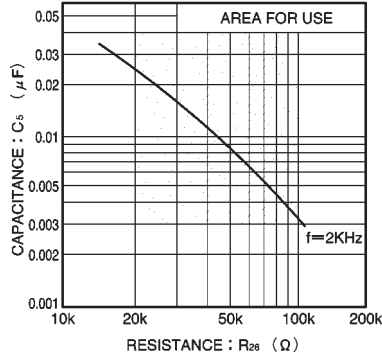

Fig. 7 Value of external components for oscillator (Vcc = 5.0V)
- 3) The external resistor R₂₆ connected to the oscillator (pin 30) should be in the range of 20kΩ and 100kΩ. If it is outside this range, oscillation may stop due to the influence of temperature (see Fig. 7).